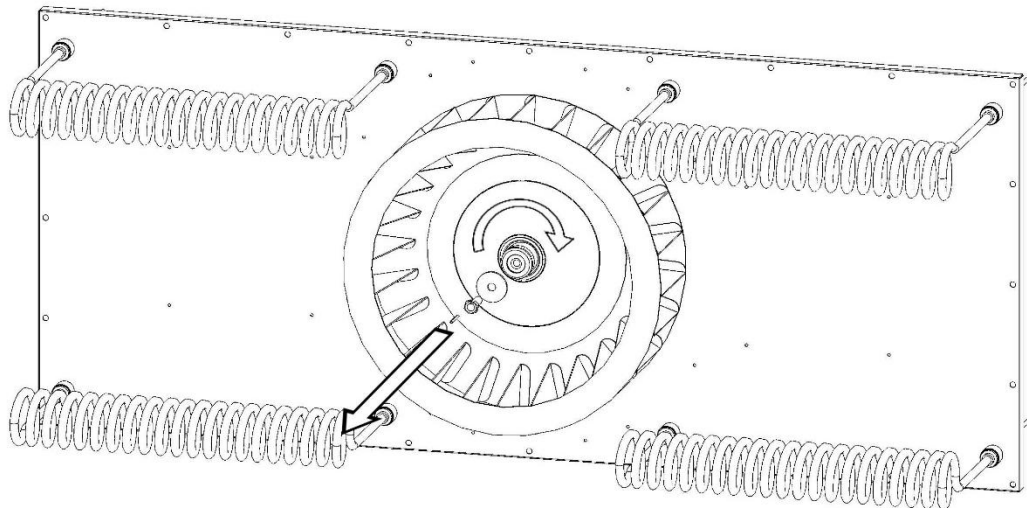

Fig.7
- 7 Remove safety pin and the bolt mounting the fan (Fig.7).
Tapping the 'Percentage speedometer' icon (Fig. 7) opens the menu for editing the engine speed correction setting ($\pm 0 \div 10\%$).